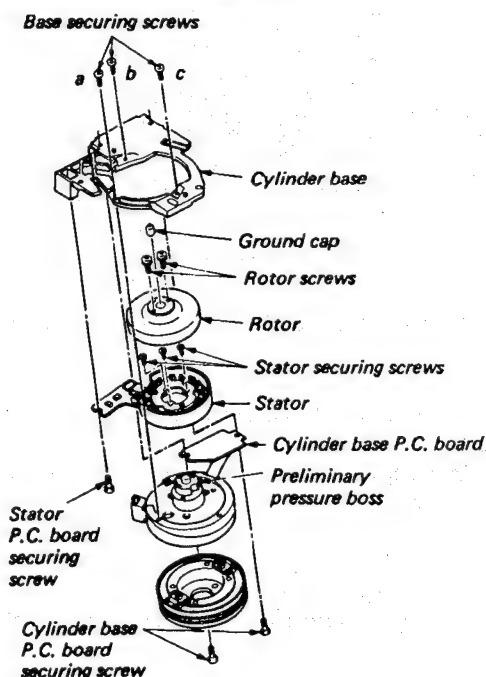

Fig. 1-3-14 Cylinder motor replacement
Mount a new rotor, matching the phase decision holes of rotor and preliminary pressure boss. (Fig. 1-3-14, 15)
3. Remove three base securing screws and remove the cylinder base. (Fig. 1-3-14)
4. Remove the rotor screws and the rotor. (Fig. 1-3-14)
(Tightening torque is 3 — 4 kg-cm.) (Fig. 1-3-14)